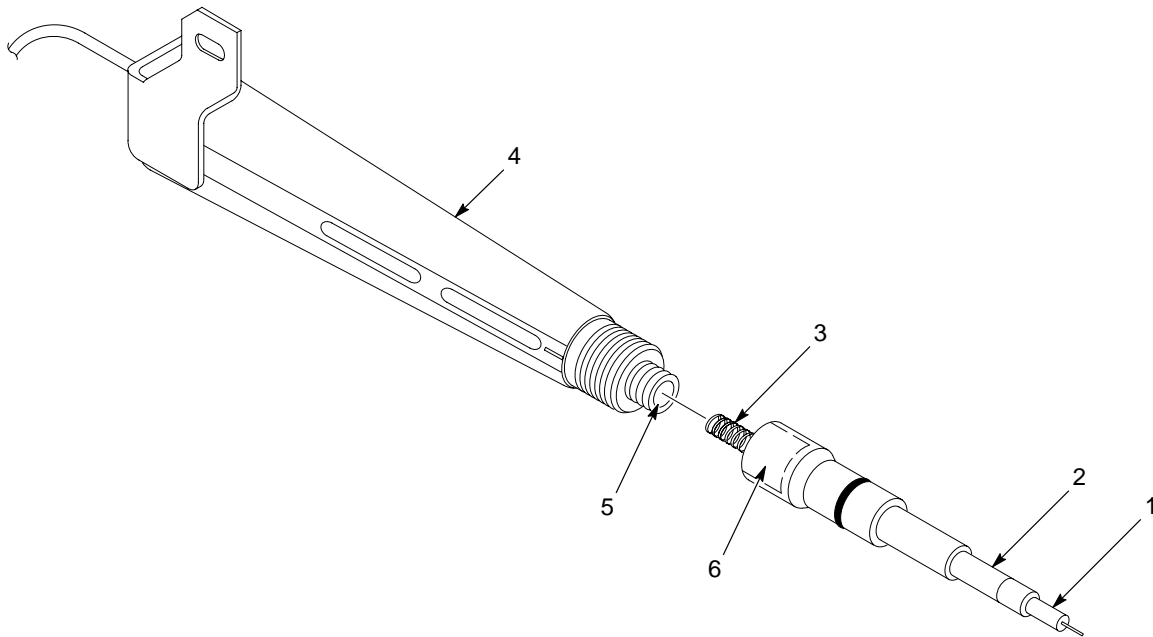

Figure 8 Contact Tip and Resistor Replacement
2. See Figure 8. Unscrew the damaged contact tip (1) from the end of the resistor probe (2).
2. See Figure 8. Unscrew the old resistor probe (2) from the multiplier (4). Clean the multiplier well (5).